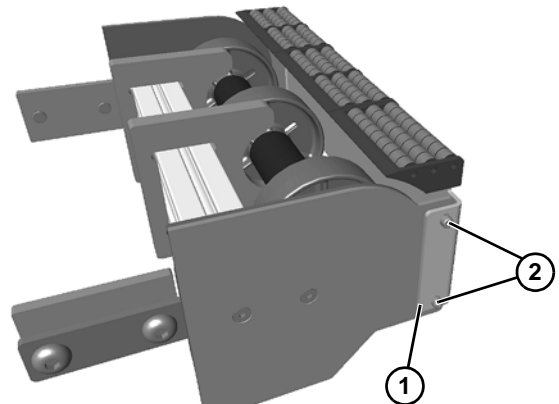

Figure 89
4. Remove two socket head screws (**Figure 89, item 1**) on each side of idler tail assembly (**Figure 89, item 2**).